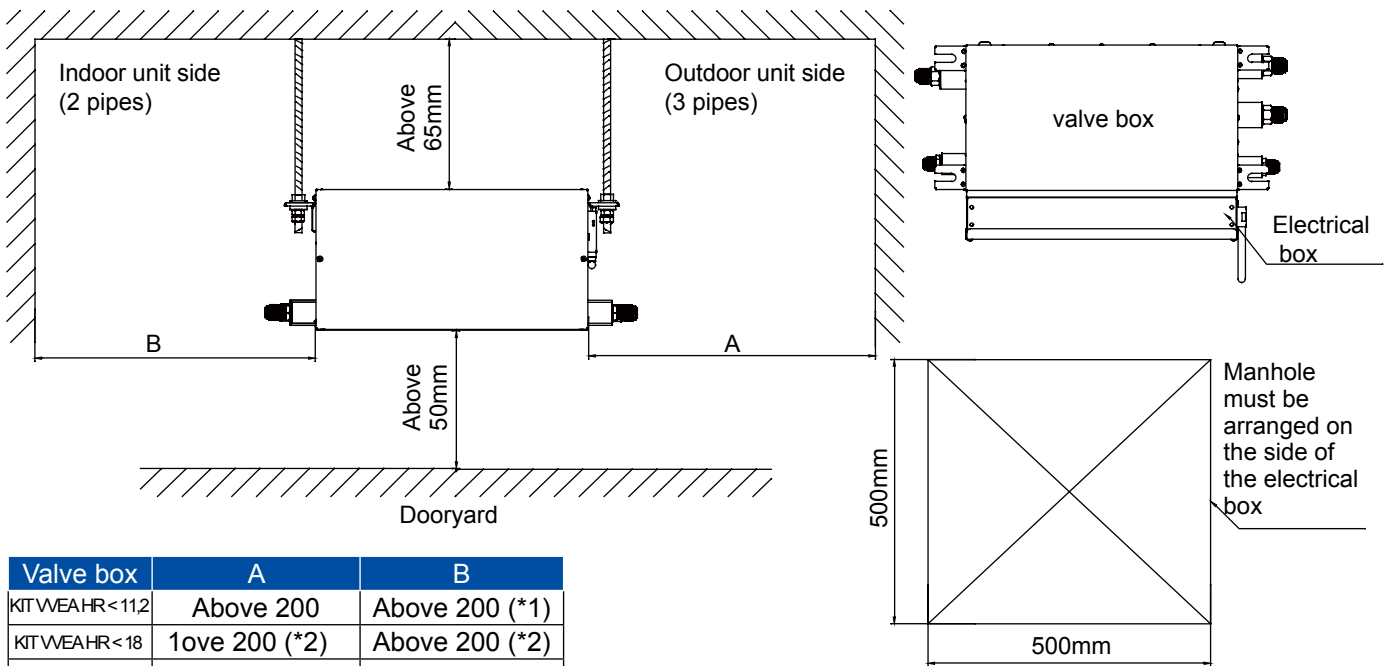

Fig.1
- Ensure that there is enough space for installation and maintenance.as show in Fig.1
(1) Change the installation direction of electric box according to requirements following the steps below; (see Fig.1)
- ① Remove the cover of the electrical appliance box; (2 screws)
- ② Remove the electrical appliance box; (4 screws)
- ③ Remove the top plate; (4 screws)
- ④ Change the outgoing direction of wiring (electronic expansion valve coil) between the equipment and the electrical appliance box;
- ⑤ Rotate 180° to install the top plate;
- ⑥ Install the electrical appliance box;
- ⑦ Install the cover of the electrical appliance box.